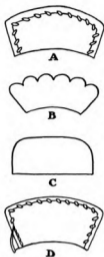

FIGURE 159
*Single Cuffs* (Figure 159). — Cuffs should always be made before they are attached to the sleeve. They may be cut lengthwise, crosswise, or bias, but the cuff that is cut lengthwise will fit tighter than the others. Cuffs have a variation in shape at the cuff line of the sleeve. The line may be straight or curved,